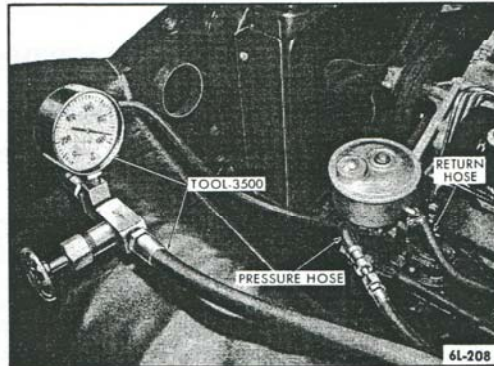

Fig. 8—Checking Hydraulic Pressure with Tool 3500
2. To check the hydraulic pressure, remove pressure hose from pump, and connect gauge between pressure fitting on pump and pressure hose that leads from pump to power unit. See figure 8. Let engine idle until oil reaches operating temperature, then turn the wheel for a full right or full left turn. The gauge should read between 925 and 975 pounds per square inch. If pressure is less than 925 PSI, close the valve at the gauge and note the pump pressure. If it is low with the valve closed, it indicates that the pump is not operating properly. If the pressure goes up, with the valve closed, it indicates that the low pressure in the system must be due to internal leakage in the power unit, providing all connections are tight.